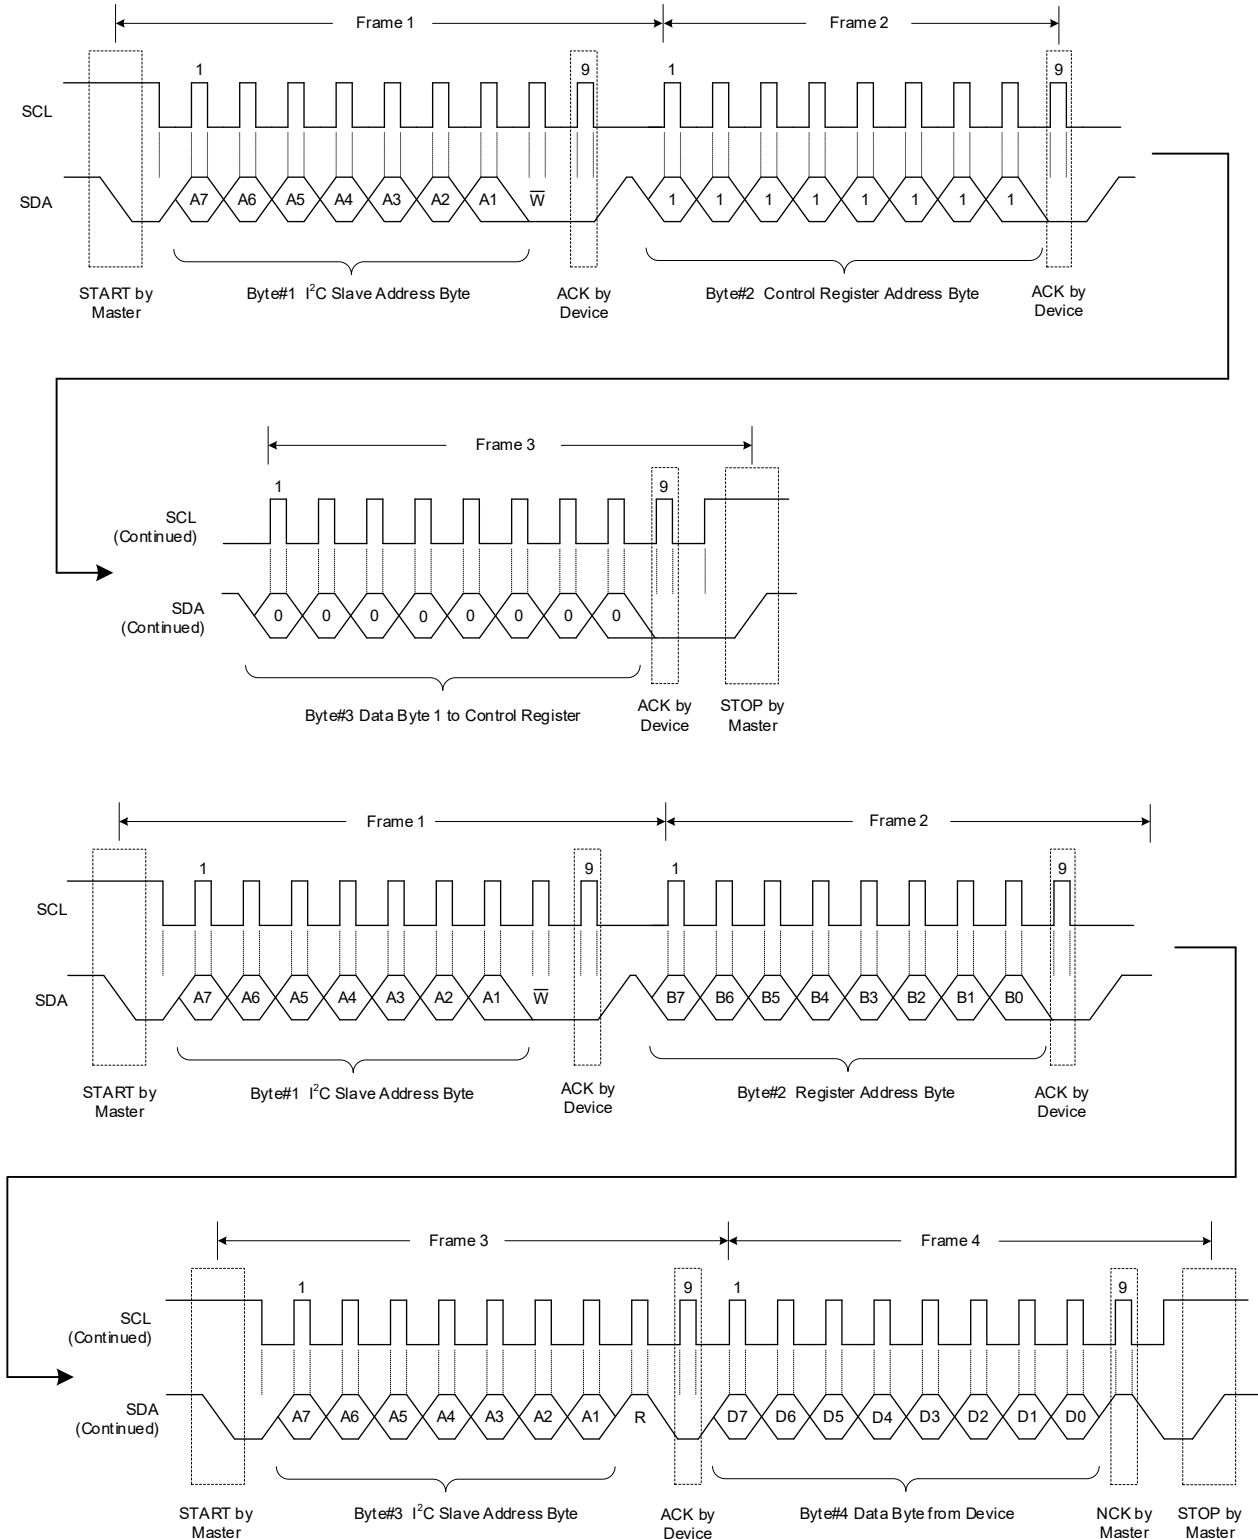
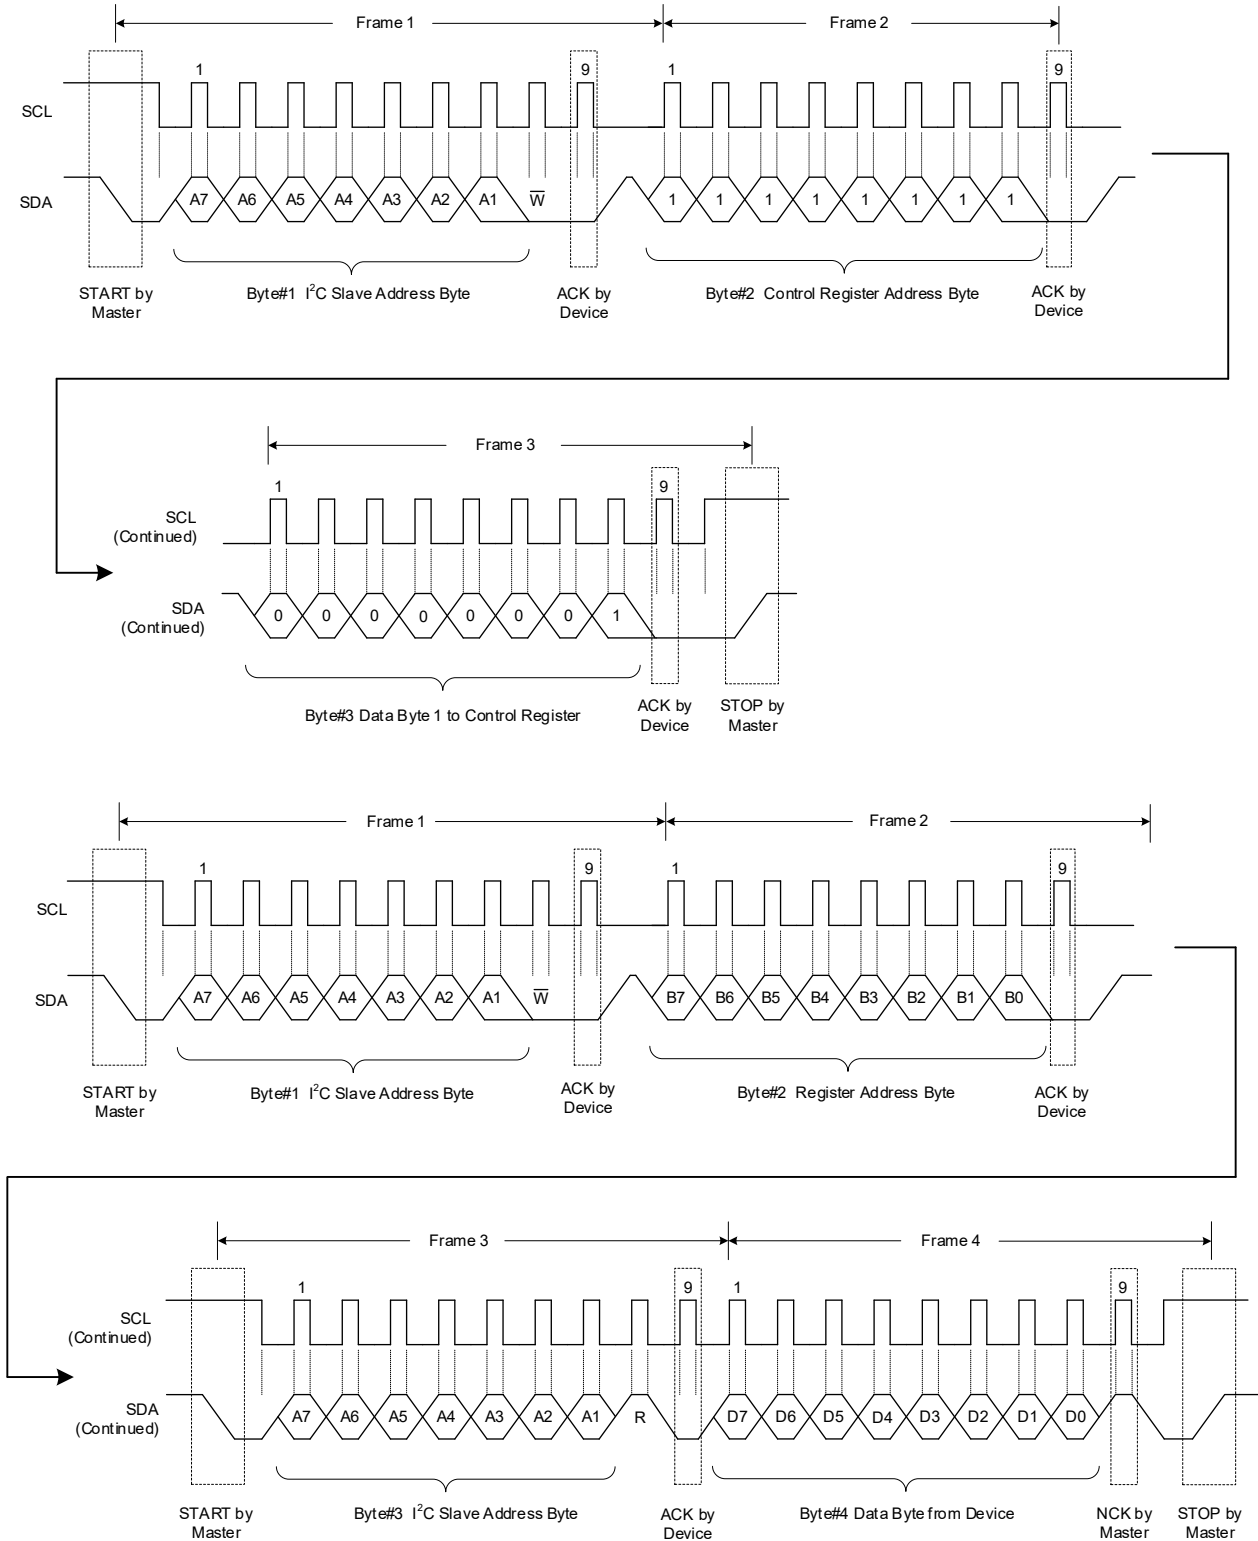

Figure 10. A Single Read Transaction (From DAC Register)
Figure 11. A Single Read Transaction (From MTP)
**READ:** If the master wants to read a single register (Figure 10 and Figure 11), it sends a new START condition along with device address with R/W bit = 1. After ACK is received, master reads the SDA line to receive the content of the register. Master replies with NCK to inform slave that no more data is needed (single read) or it can send an ACK to request for sending the next register content (multi-read). This can continue until an NCK is sent by master. A STOP must be sent by master in any case to end the transaction.